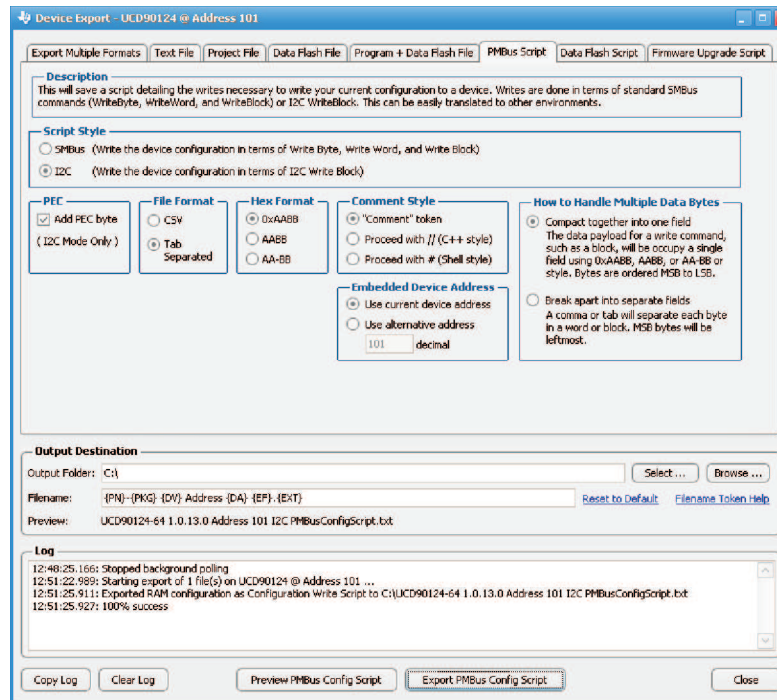

Figure 31. Fusion GUI PMBus Configuration Script Export Tool
2. The *Fusion GUI* (Figure 31) can create a PMBus or I²C command script file that can be used by the I²C master to configure the device.